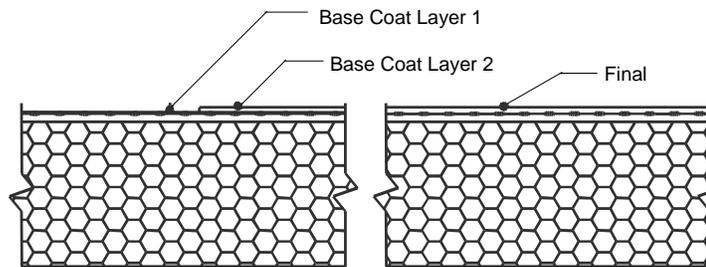

Figure 3
- 3) Allow the base coat mixture to take up until firm to the touch. Trowel a second tight coat of the base coat mixture over the first coat to **fully cover** the reinforcing mesh - Figure 3. The result should be such that the reinforcing mesh is approximately centered within the base coat thickness. Do not allow the first pass to completely dry prior to the second pass application or an excessive amount of base coat mixture will be necessary to fully coat the wall surface.